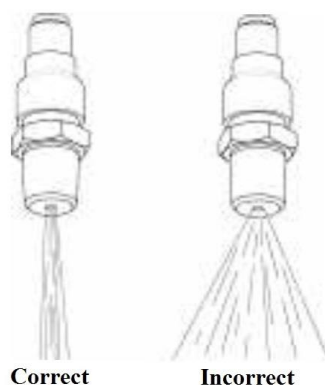

Figure 1
- G. Examine the fuel flow from each injection nozzle to make sure the fuel stream is not scattered (which is an indication of blockage in the injection nozzle) identified as “Incorrect” in the Figure 1 below.